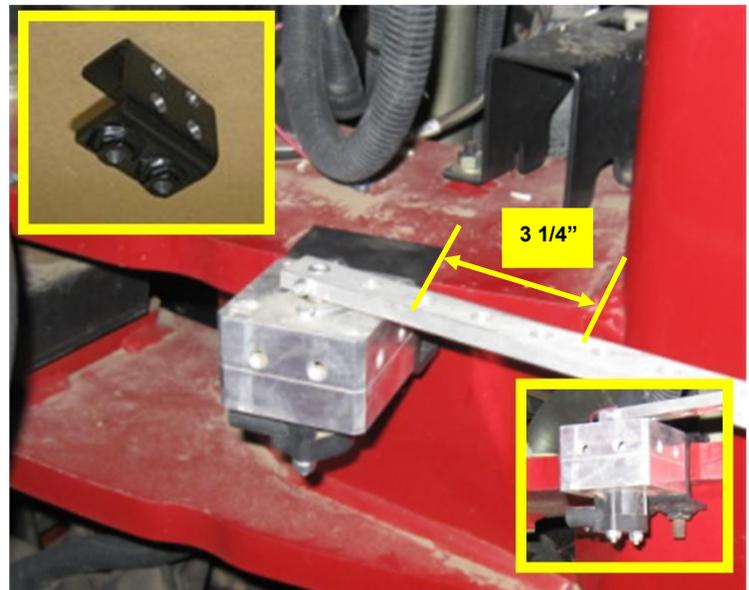

Figure 35
Using hardware (item 6), attach the WAS assembly to clamp bracket (item 2). Use the top 2 holes of (item 2). Have the connector arm (item 1) pointing away from the center of the machine. The WAS sensor connector will point towards the center of the machine as shown in Figure 35 pictured right.